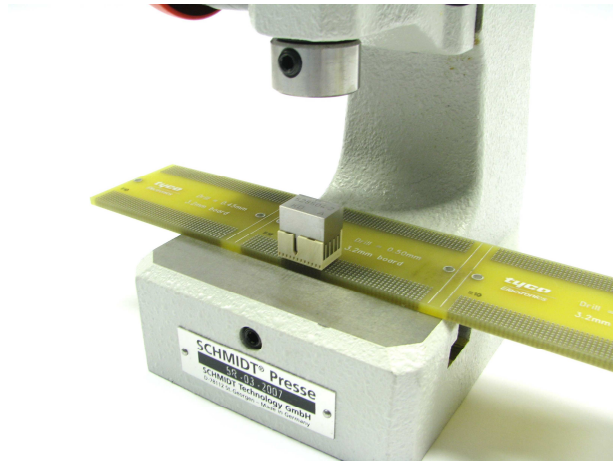

Figure 7
3. Now the pc-board with the male connector and insertion block is placed under the ram of the press (see figure 7).